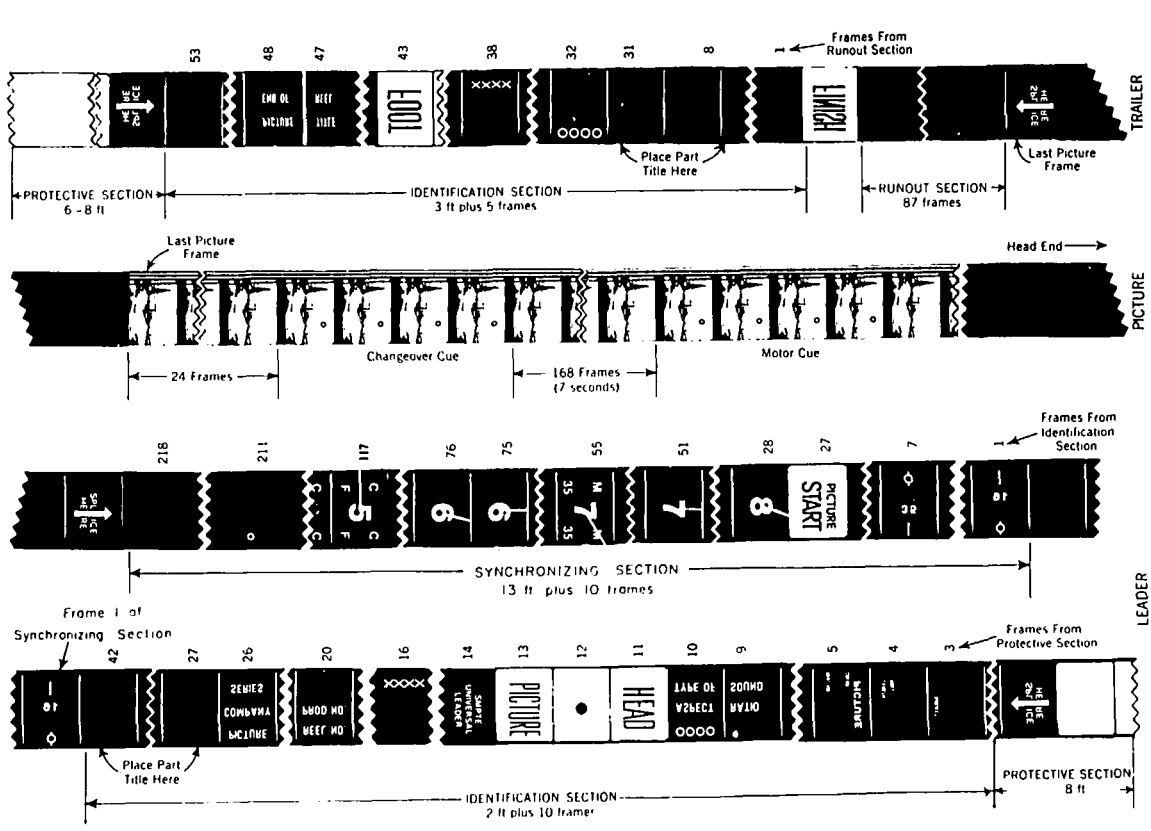

Fig. 1 Figure shows 35-mm film with audio track on right edge as seen from the light source in the projector. The audio track is on the left edge of 16-mm film.
## 5. Head Leader (See Fig. 1)
7. Trailer (Foot Leader) (See Fig. 1)
6. Picture Section (See Fig. 1)